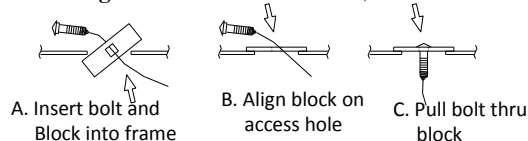

Figure 3
- Install 7/16 carriage bolts using the reverse pull wire procedure as seen in Fig 3. Leave pull wires attached. Note: length of bolts. Item 5 driver side, Item 10 passenger side.